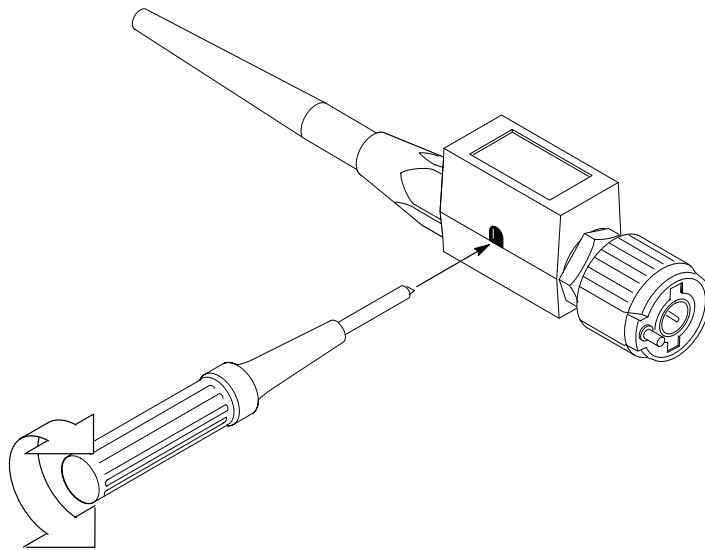

Figure 3–2: P6139A Probe Adjustment
7. Adjust the probe until you see a square wave with a perfectly flat top on the display. Figure 3–2 shows where the adjustment is located.